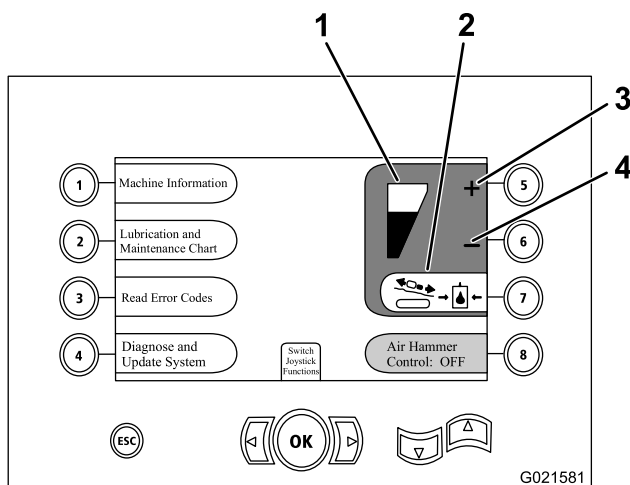

Figure 69
2. Increase or decrease the carriage pressure as follows: (Figure 69).
- Press button 5 on the screen to decrease the carriage pressure (Figure 69).
- Press button 6 on the screen to increase the carriage pressure (Figure 69).
Note: The carriage-pressure gauge (Figure 69) will fluctuate up or down based on how much you increase or decrease the carriage pressure.